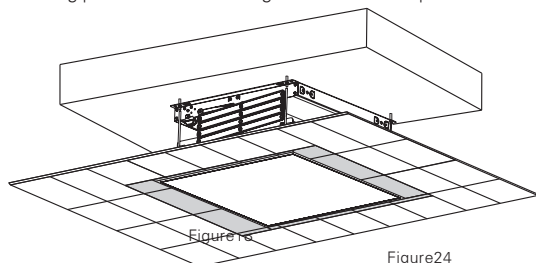

Figure24
15.(Figure 24)Trim the ceiling plate to the appropriate size and assemble it back into the ceiling grid. The suggested distance of ceiling plate to the lift's decorative ceiling plate is about 5mm. Please use the same way to adjust the ceiling plate in case the height of decorative plate is not the same as the ceiling plate around.